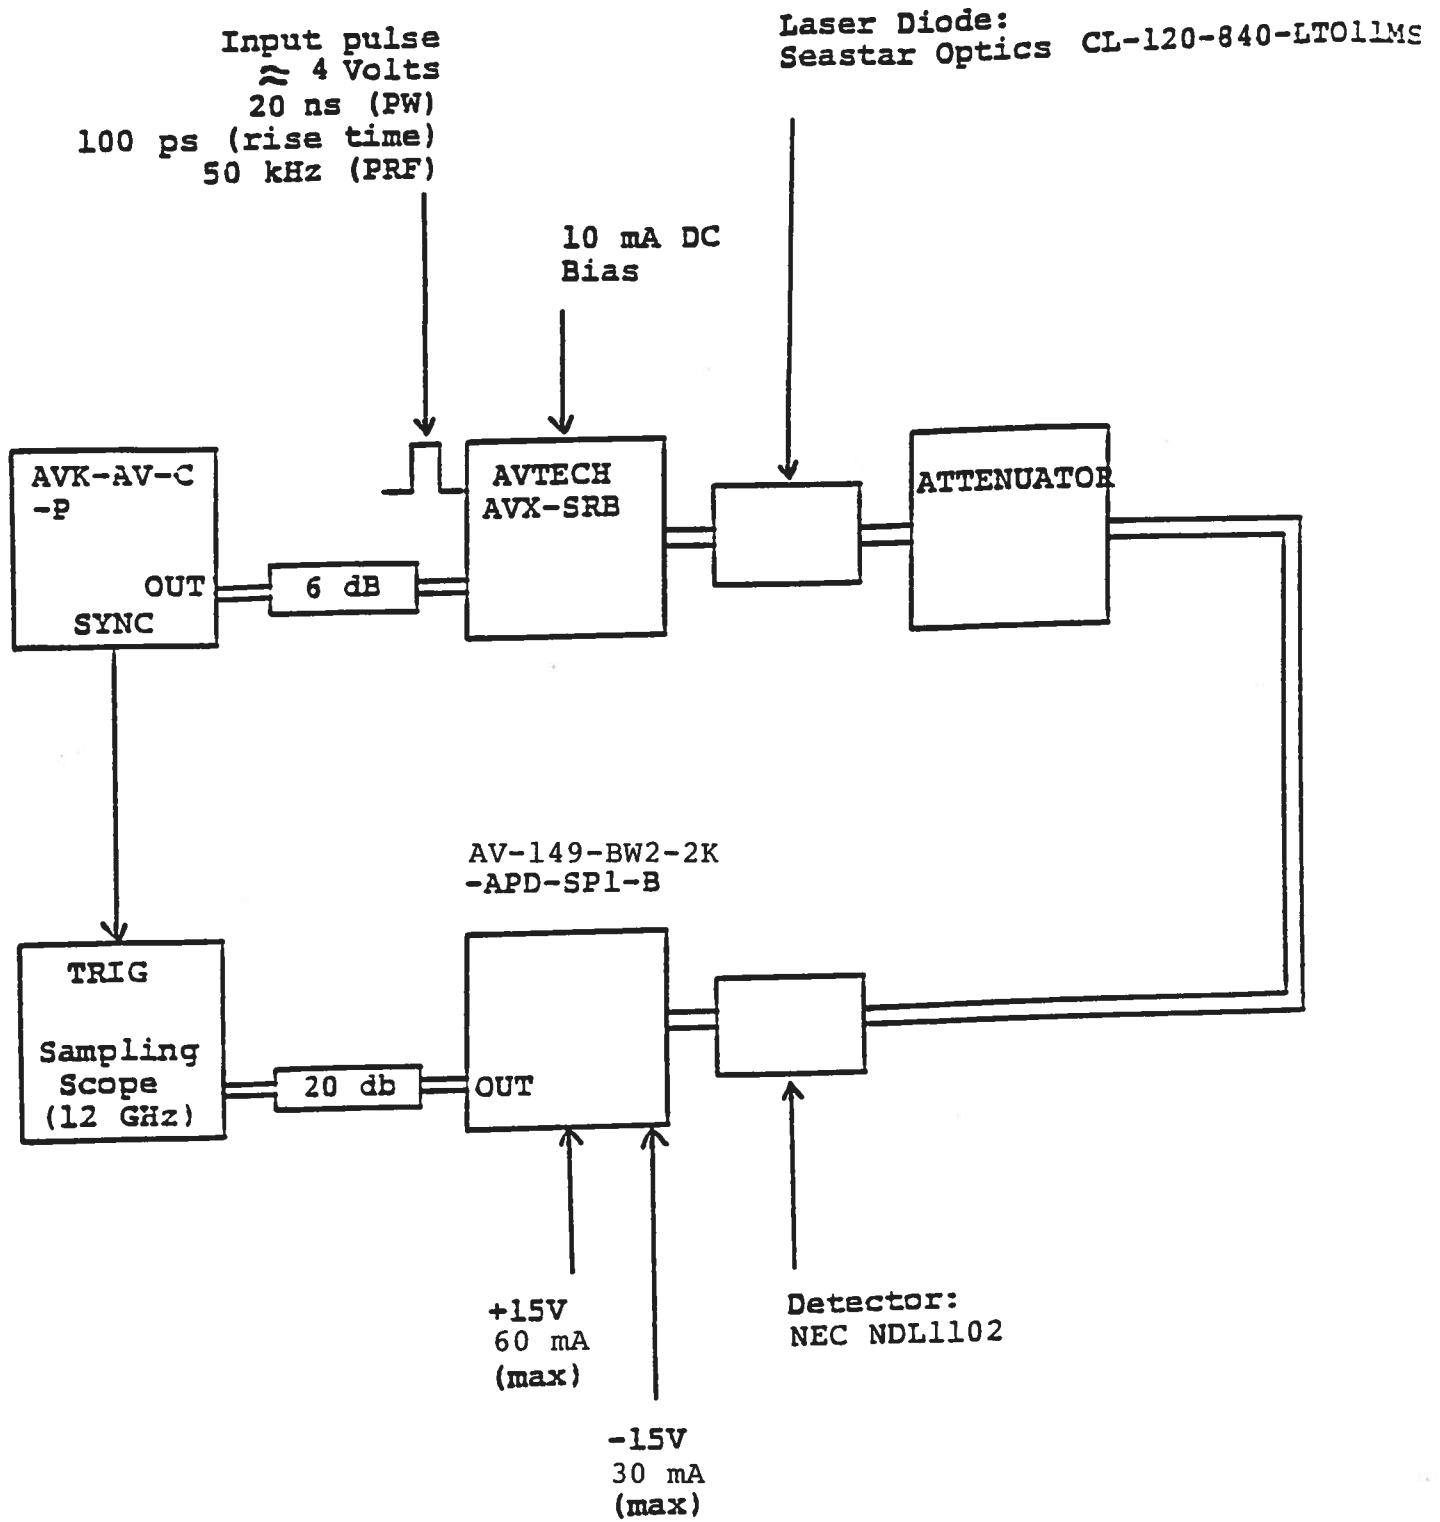

Fig. 1
- 1) The basic operation of the amplifier was confirmed using the pulse mode test arrangement shown in Fig. 1.